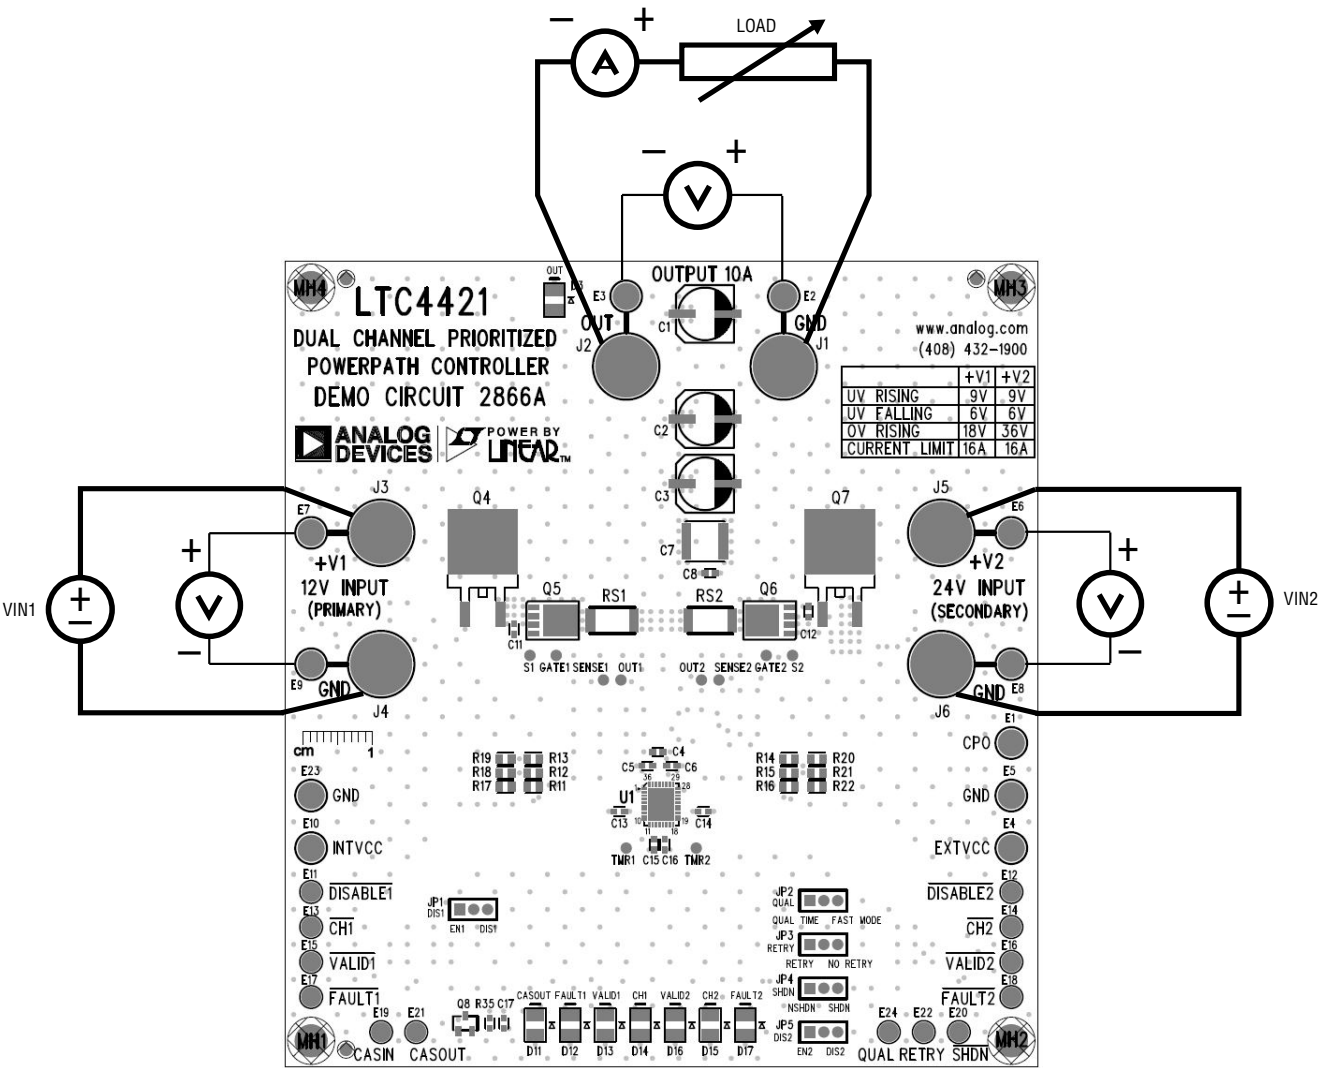

Figure 1. Proper Measurement Equipment Setup
Demonstration circuit 2866A is easy to set up to evaluate the performance of the LTC4421. Refer to Figure 1 for proper measurement equipment set up and follow the procedure below.
2. With all power off, connect input 1 and 2 (+V1 and +V2) power supplies capable of at least 16A each, the load, and meter as shown in Figure 1.